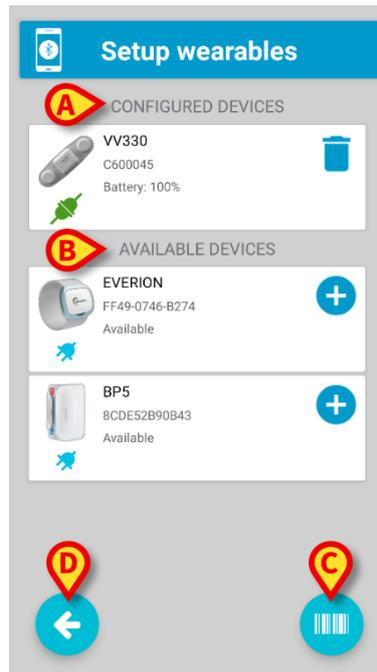

Fig 5
This Setup Wearable view permits to pair or unpair wearables to the gateway. Referring to Fig 5, there are two sections:
- Press the **Scan** button (Fig 5 **C**) to scan the barcode printed on the wearable device; the device will be paired automatically. In this case, it is not necessary for the device to be turned on.
Please note on Myco 3, being the device provided with a physical button, the button **C** of Fig 5 is not shown.
- Press the button **D** of Fig 5 to return to the main view.